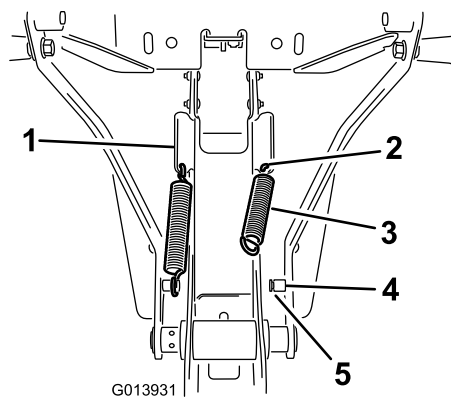

Figure 18
- Hook 1 end of the spring into the hole and the other end onto the spring post (Figure 18).
- Make sure that the spring end is seated properly in the groove in the post (Figure 18).
- Install the spring in the hole in the lower end of the angled tab on the side of the frame assembly (Figure 18).